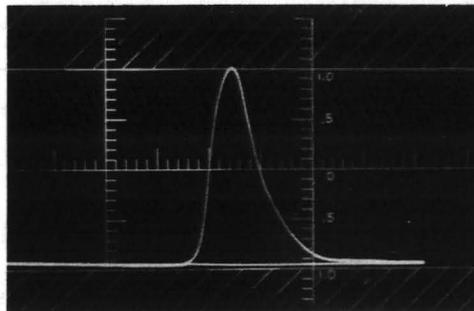

Fig. 9 - High Frequency Distortion
7.25 Rounding off of the sharp pulse edges accompanied with a reduction in amplitude and spreading of the narrow spike in the test signal and general lack of definition in a test pattern as viewed on a picture monitor, is caused by attenuation of the high frequencies. If the condition is simply one of smooth roll-off as in Fig. 9 without other complications such as phase distortion, the effect may be scarcely noticeable on a picture. However, an impairment of two or three db at 4 mc will be easily seen on the narrow spike test signal and if more than one link in a long circuit has such distortion, the final transmission soon becomes intolerable.